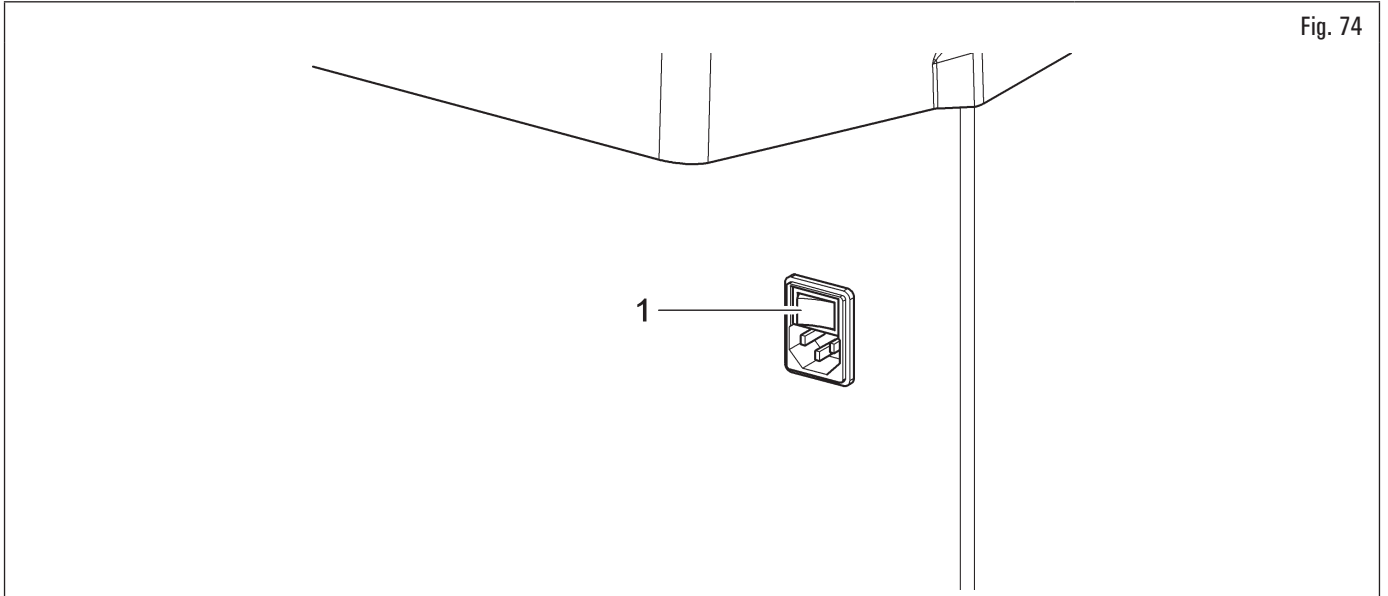

Fig. 74
Once the plug/socket connection has been made, turn on the equipment using the main switch (Fig. 74 ref. 1).
Turn the main switch (Fig. 74 ref. 1) located on the lateral/rear side of the equipment (depending on the models).
In order to turn off the equipment, simply press the "OFF" main switch (Fig. 74 ref. 1).